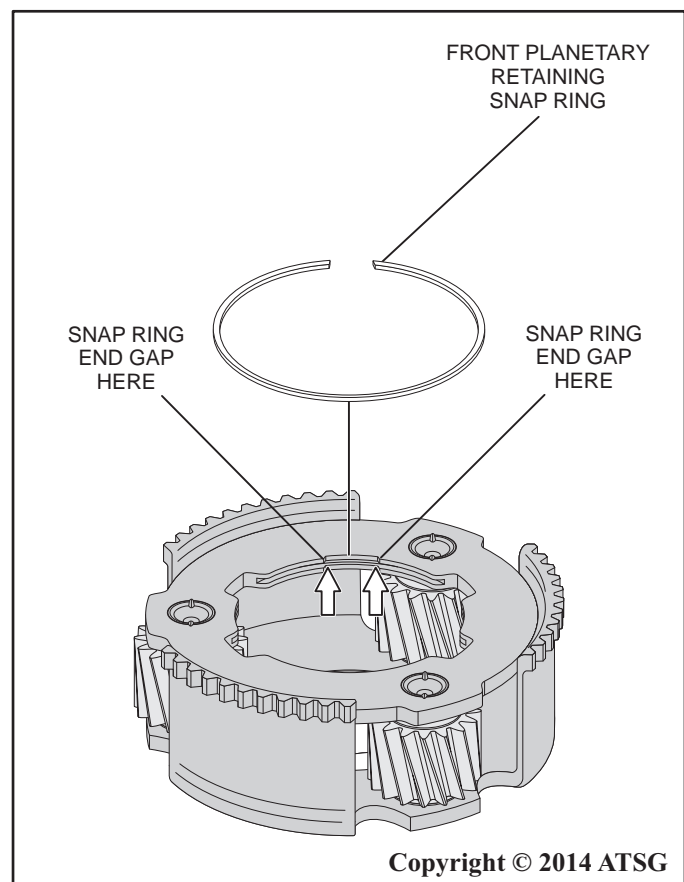

Figure 91
49. If the retaining snap ring was removed from the front planetary, install it at this time so the snap ring end gaps are located in the opening as shown in Figure 91.